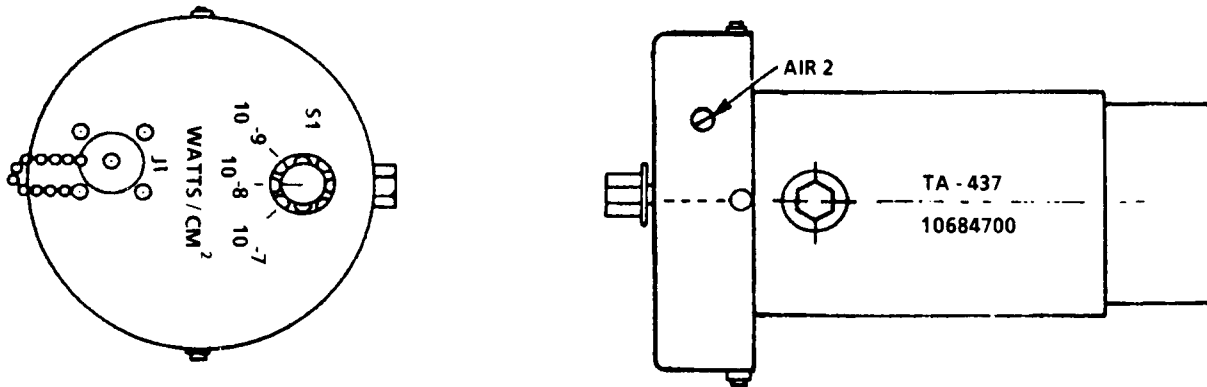

Figure 7. IR probe.
- b. Install IR probe on TA-237 using radiometer A2 ring adapter (B1). Ensure that the IR probe adjustment A1R2 is accessible to the technician, figure 7.